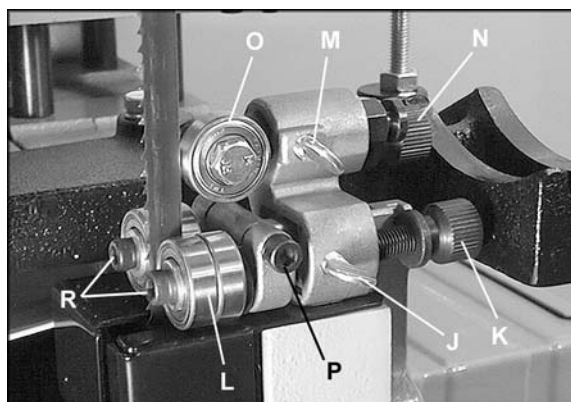

Figure 50
8. Tighten thumb screw (G, Figure 50).
Refer to Figure 50.